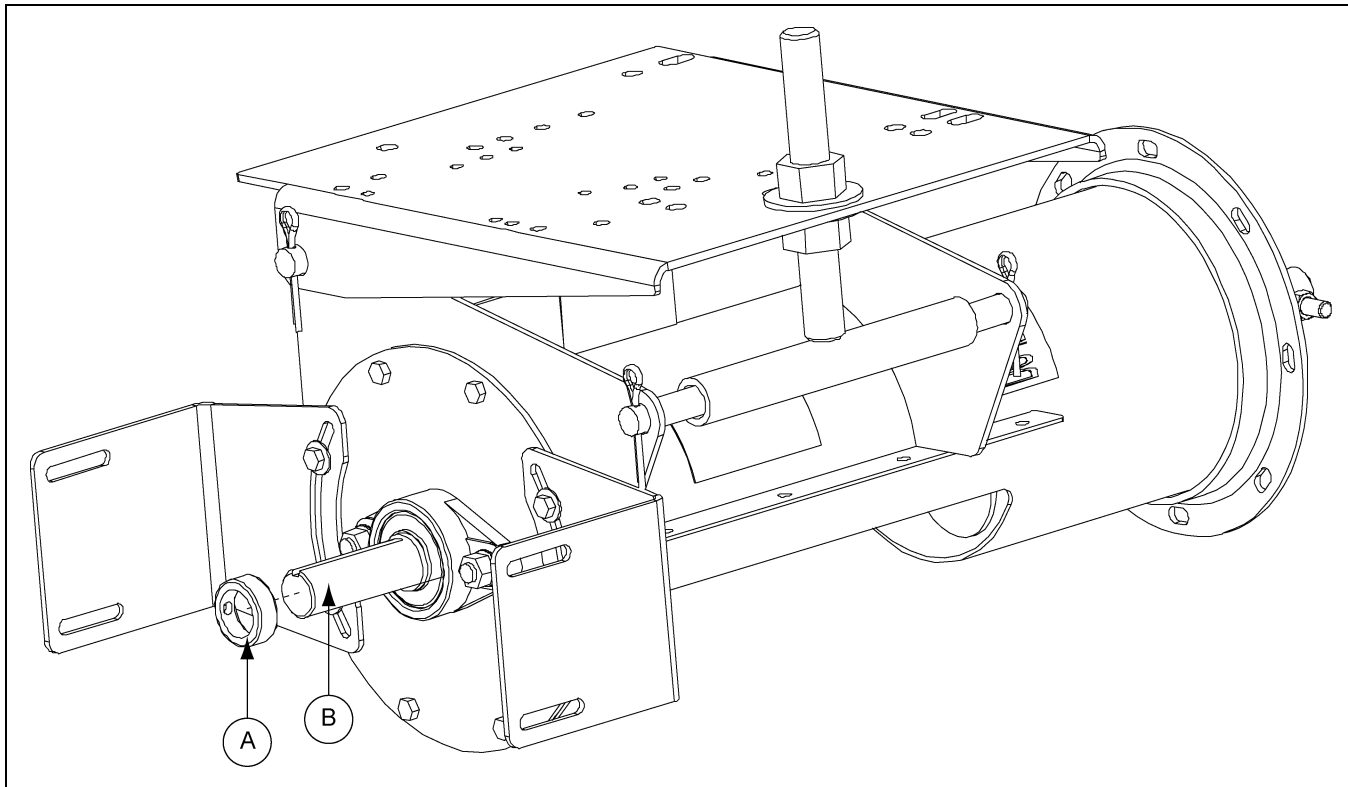

Figure 4R
1. Slide the lock collar (A) over the drive shaft (B), positioning it against the bearing. Do not tighten the lock collar (A) at this time as it will be tightened later in the assembly. (See Figure 4R.)